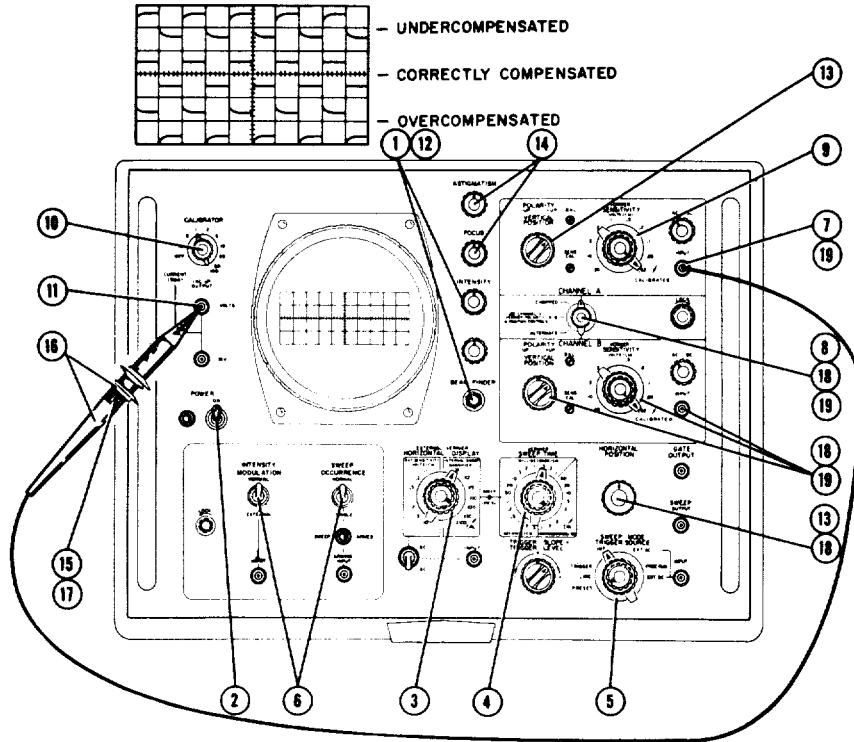

Figure 3-2. Procedure for Turning on Oscilloscope, Compensating Probe, and Making Initial Electrical Inspection
The prods have attached cables terminated in BNC connectors for connection to the vertical channel inputs. A simple external adjustment is provided for adjusting the frequency response of the prods without the need for any additional equipment. The frequency response and waveform height division ratio should be checked whenever exact response must be assured. Refer to figure 3-2.
To energize the oscilloscope for the first time, and to check the oscilloscope for proper operation, follow the procedure given in figure 3-2. This procedure includes proper initial control adjustments to prepare the oscilloscope for use.
Before attempting to operate the oscilloscope, familiarize yourself with the functions of all the front panel controls and connectors, as given in paragraph 3-3, and read the operating precautions given in paragraph 3-4. Then refer to figure 3-2 for the initial turn-on and operating procedure.
Procedures for turning on the oscilloscope, checking oscilloscope performance and obtaining various modes of operation are given in figures 3-2, 3-3, tables 3-2, 3-3, and paragraphs 3-6 through 3-14.
The procedure of table 3-2, used in conjunction with figure 3-2, gives step-by-step instructions for turning on the oscilloscope, checking its operation and making initial adjustments in preparation for viewing an input signal.
TABLE 3-2. PROCEDURE FOR TURNING ON OSCILLOSCOPE AND PREPARING IT FOR USE (STEP NUMBERS ARE KEYED TO INDEX NUMBERS ON FIGURE 3-2)
1	Perform turn on procedure as described in steps 1-14 of figure 3-2 and table 3-2.
Refer to table 3-2 and figure 3-2 for a summary operating procedure. Summary information about the function of any particular control(s) can be found in table 3-1 which is keyed to control locations shown in figure 3-1.
- a. VERTICAL SENSITIVITY CHECK.-Perform the turn-on procedure given in figure 3-2 and table 3-2, checking Channel A and Channel B in turn. If a test prod is used in this test, set the CALIBRATOR